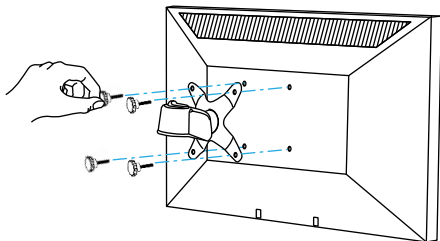

Figure 17
2. Insert the **Monitor Thumbscrews** (x4) through the **VESA Mount Bracket**, and onto the back of the **Monitor**. (Figure 17)